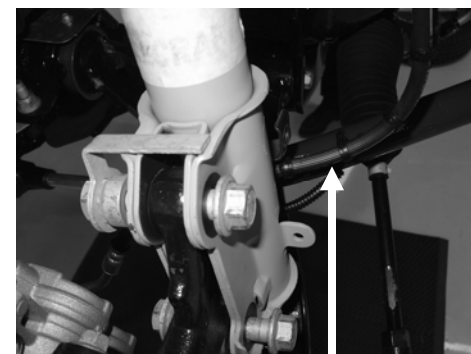

Figure 2
3. Pull up wheel hub and attach the bottom of the strut to the knuckle using stock bolts and nuts. Use the 3/8" impact gun and 18 mm deep socket to tighten (Figure 2). **Torque to 148 ft.-lbs.**